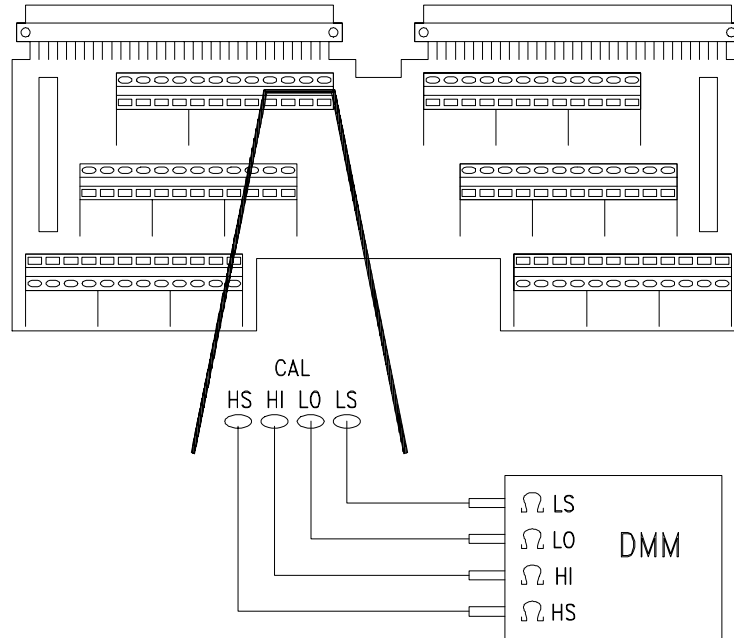

Figure D-4. Resistance Calibration Connections (CAL)
1. Make the connections shown in Figure D-4.